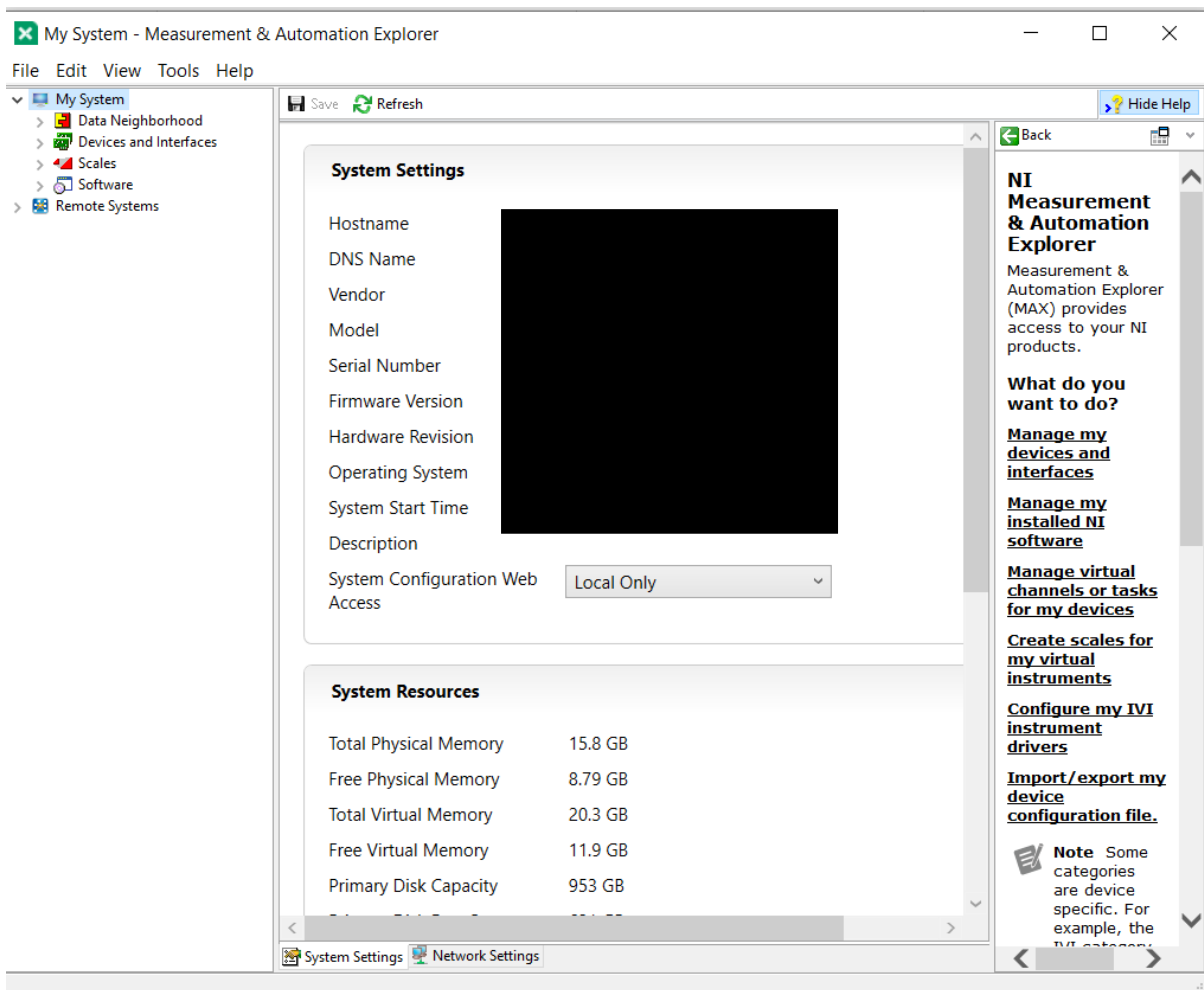

Figure 1 - Interface of the NI MAX software
- 1) Open up '**NI MAX**' software (figure 1).